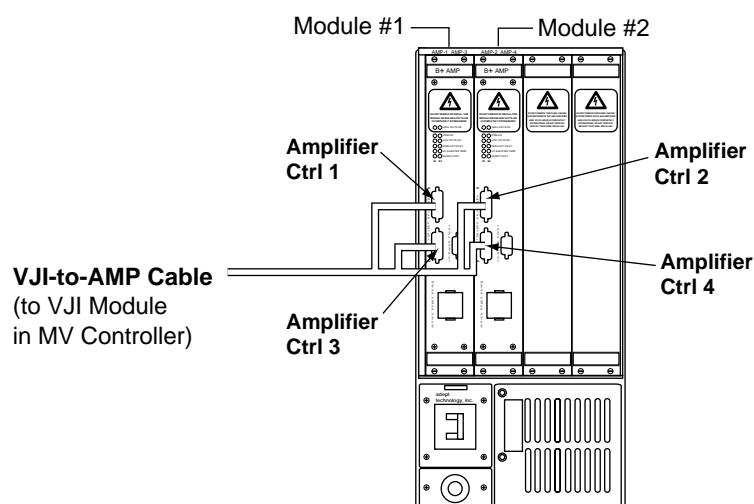

Figure 2-13. Power Chassis to VJI Cable Installation
2. The other end of the cable with four plugs must be connected in the following *special pattern*. See Figure 2-13.